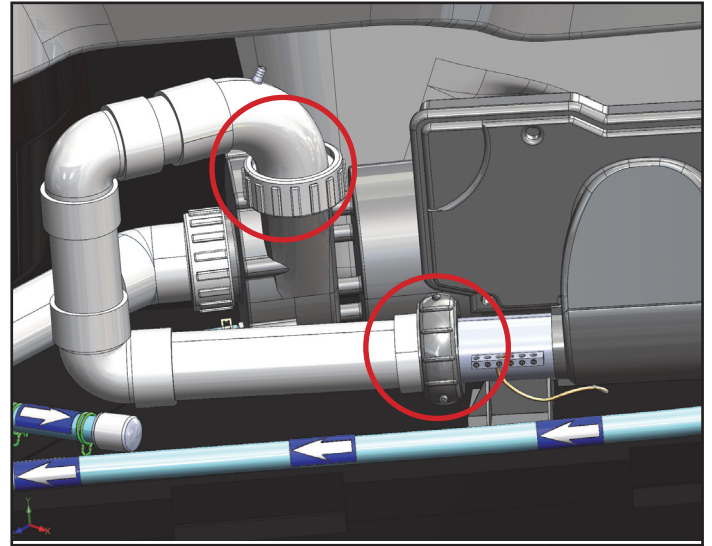

Figure 1.2
3. Locate the jet pump discharge line connections (Figure 1.2).
4. Disconnect the jet pump discharge line from both the jet pump and the heater (Figure 1.2).